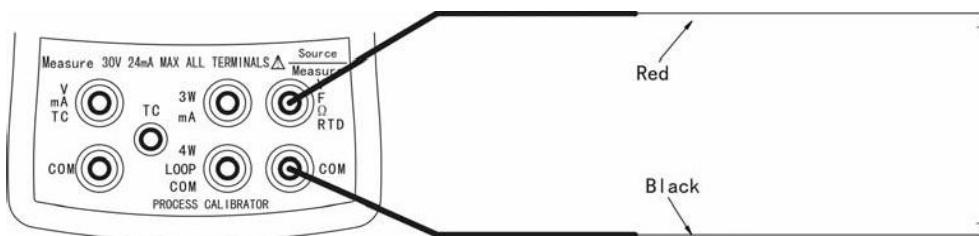

Figure6-1 Voltage Sourcing Connections
- (1) Press  until the lower display shows "SOURCE".
- (2) Press  to select voltage until the display shows "V" or "mV".
- (3) Connect the test leads as shown in Figure6-1.
- (4) Enter the desired output value by pressing numeric keypads